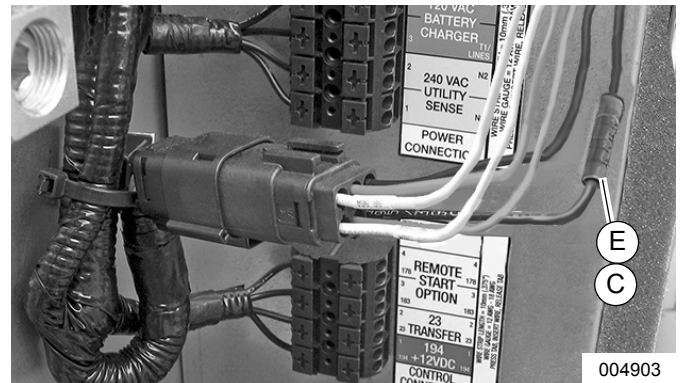

Figure 20 - Connect Switch Wire
7. See **Figure 20**. Crimp an insulated barrel splice connector (E—supplied) to stripped end of 36 in. (91 cm) wire (C). Crimp open end of barrel splice connector to the stripped black wire on pin side of Deutsch connector.